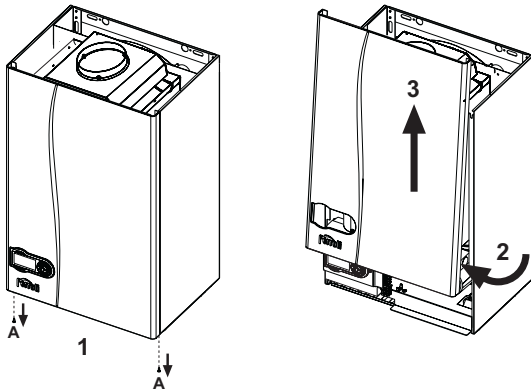

fig. 22 - Opening the casing
1. Undo the screws A (see fig. 22).
2. Turn the casing (see fig. 22).